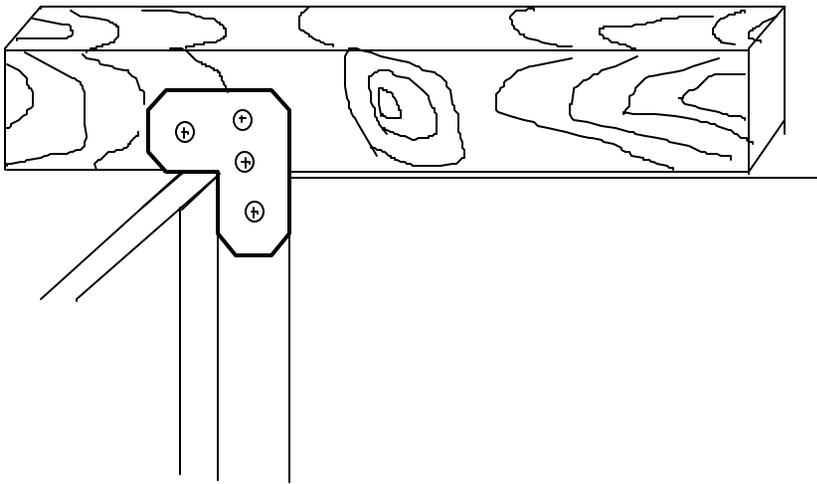

Fig. 3
- D.) Attach SkyLite to a (2 x 4) or other material (not provided) using brackets (not provided) to the inside edge of the SkyLite as shown in Fig.3 and 4.